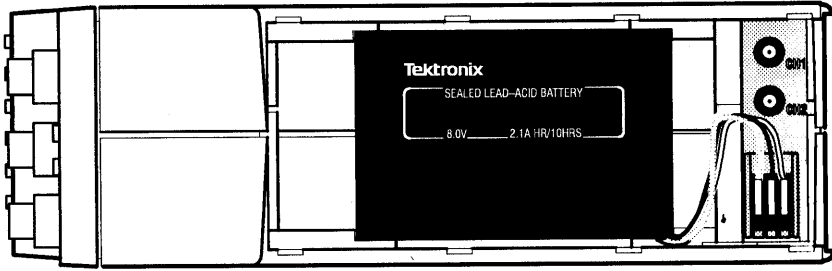

Figure 3-17: Side View Without Battery Cover
- Step 4:** Lift the battery compartment cover and remove it. The instrument now appears as shown in Figure 3-17.